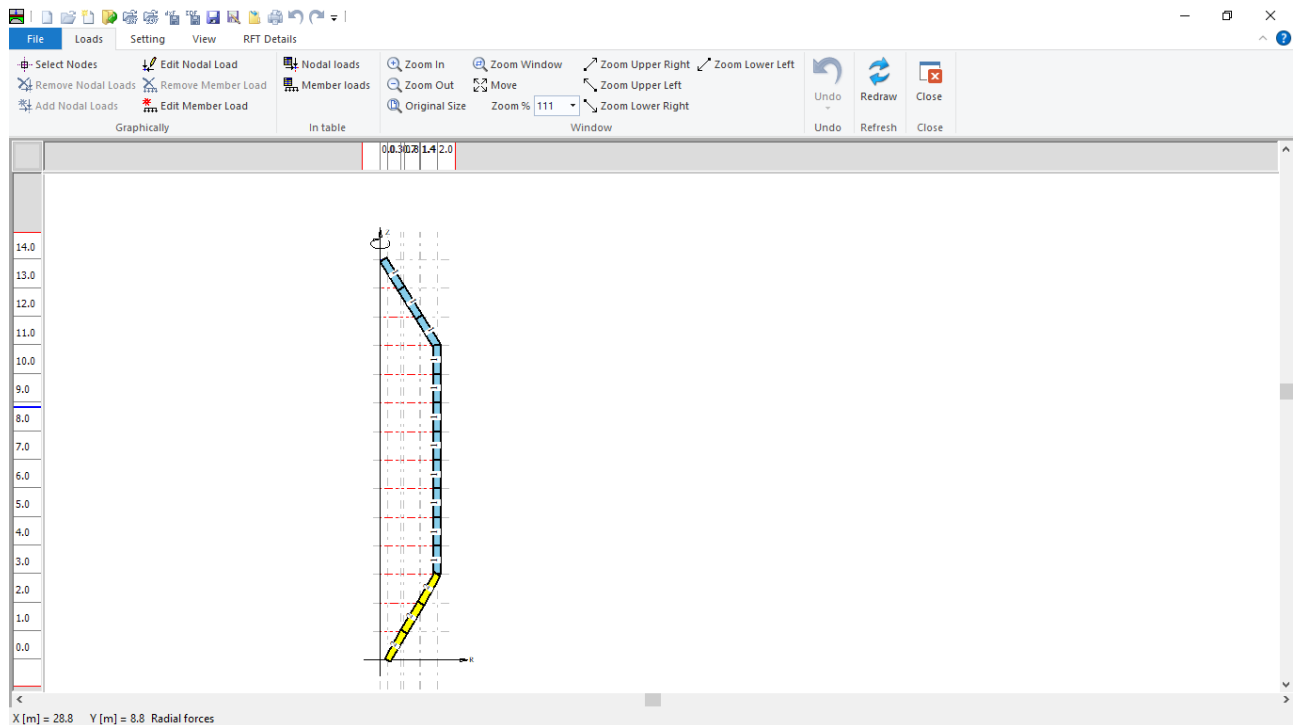

Figure 13.21 "Loads" Window
To define the loads, choose "Loads" command from "Data" Tab. The following window in Figure 13.21 appears.
In *ELPLA*, entering loads may be carried out either numerically (in a table) or graphically using the commands of "Loads" Tab in Figure 13.21. In this example, there is not applied load, as the lateral load on the main wall has been already defined by P_h .
- Choose "Save" command from "File" menu in Figure 13.21 to save the load data
- Choose "Close" command from "File" menu in Figure 13.21 to close the "Loads" window and return to *ELPLA* main window